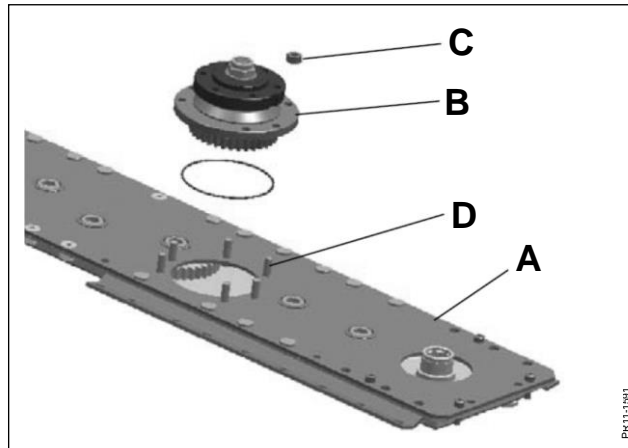

Fig. 5-17
**Fig. 5-17** When the hub is mounted the surface of the cutter bar **32** and the underside of the hub **36** must be clean and greased with a thin layer of grease. The nuts **30** must be locked with Loctite 243 on the threaded pins **22** and tightened to **92 Nm** (9.2 Kpm). On the 6-bolt cutter bar all discs are the same. There is no special input disc.